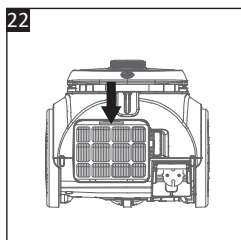

Fig. 22
3. Press down the tab on the top of the air outlet filter (23) to remove it from the vacuum cleaner (**Fig. 22**).